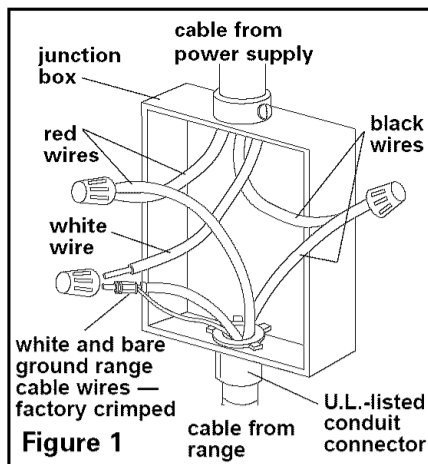

Figure 1
7. Connect the factory-crimped bare and white range cable wires to the neutral (white) wire in junction box. See Figure 1.